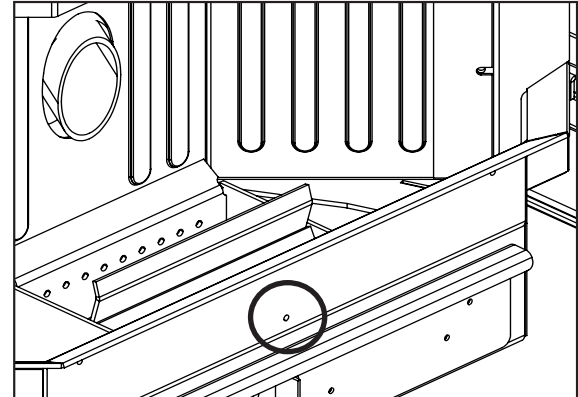

Figure 8: Hole for Pressure test with
For troubleshooting purposes the firebox vacuum pressure may need to be confirmed. This should be done only on a hot stove (operating for thirty (30) minutes or more) by placing a Magnahelic Pressure Gauge in the firebox. The reading can be taken from the 1/8" (3 mm) hole located in the front of the firebox under the door (see Figure 8).